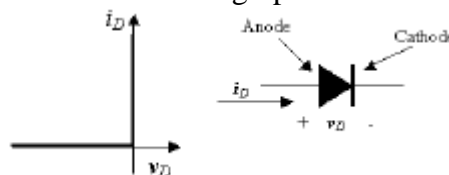

Fig. 2: Ideal Diode IV Curve and Schematic
In **Fig. 2**, the threshold voltage (i.e. the voltage when the slope of the line changes from 0 to ∞) is 0V. In the real-world the threshold voltage will be some positive voltage. For the diodes we will use in this lab, all threshold voltages will be positive (Zener diodes also have a low reverse threshold).
We see that the output voltage across the load is the input voltage minus the threshold voltage (this only holds when the input voltage is greater than the threshold voltage). Here, the threshold voltage is set to about 0.5 volts (can you see why?). We see that when the input voltage is not greater than the threshold voltage, we get zero voltage out. This makes sense if we look at **Fig. 2**.
- We see that when the input voltage is less than the threshold voltage (and thus the voltage across the diode is less than the threshold voltage), we get zero current through the diode and the load (see **Fig. 2**).